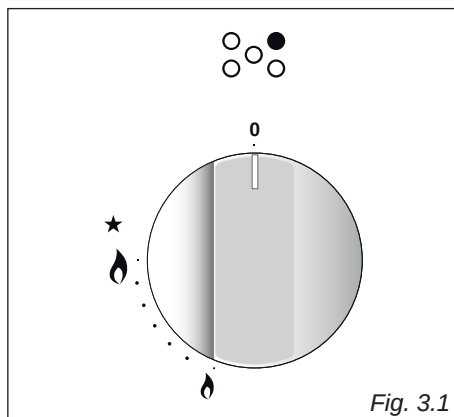
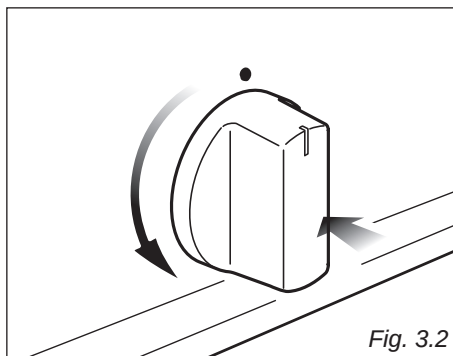

Fig. 3.1
Fig. 3.2
- Remove the screw securing the cover “A” on the rear of the cooker (fig. 3.2).
Gas flow to the burners is adjusted by turning the knobs (illustrated in fig. 3.1) which control the safety valves.
- 1. Press in the corresponding knob and turn counter-clockwise (fig. 3.2) to the full flame position marked by the  symbol (fig. 3.1); hold the knob in until the flame has been lit.